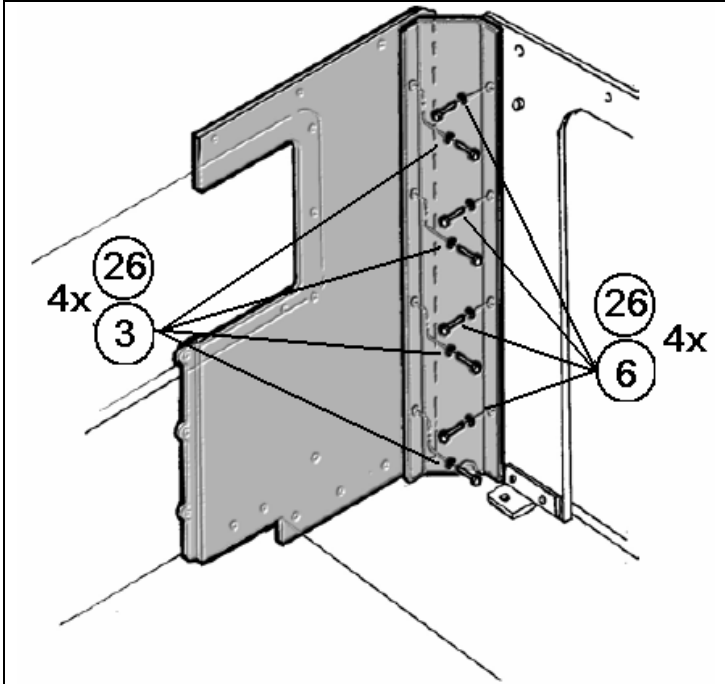

Figure 5-28. Backside Kit Installation (1 of 3).
1. Place Panel #844 against the aft cabin wall, left corner, as shown in Figure 5-28. Align the left rear B-pillar #826. Install fasteners through the B-pillar and into the rear and side panel as shown. Do not torque fasteners at this time, as it may be necessary to adjust the panel positions slightly to align other components.